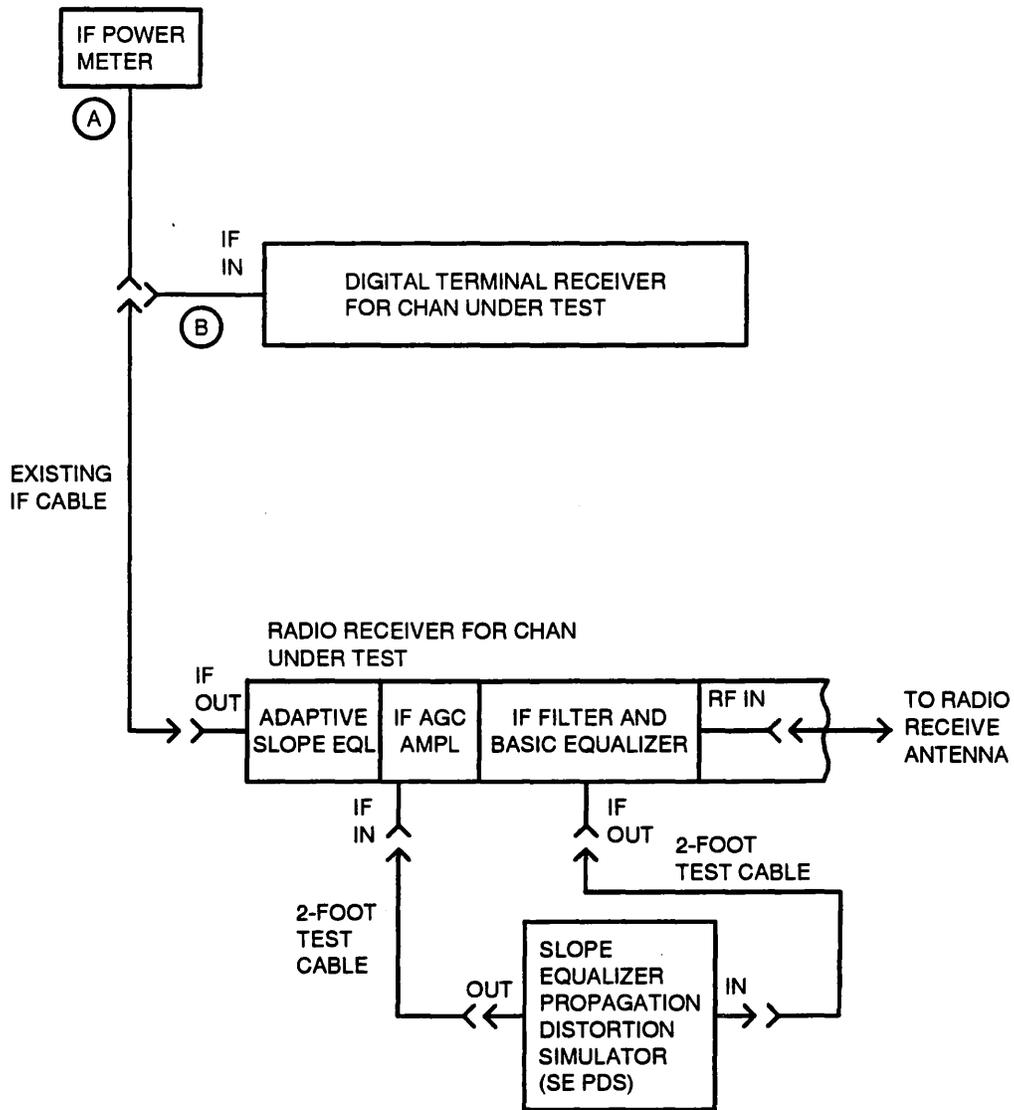
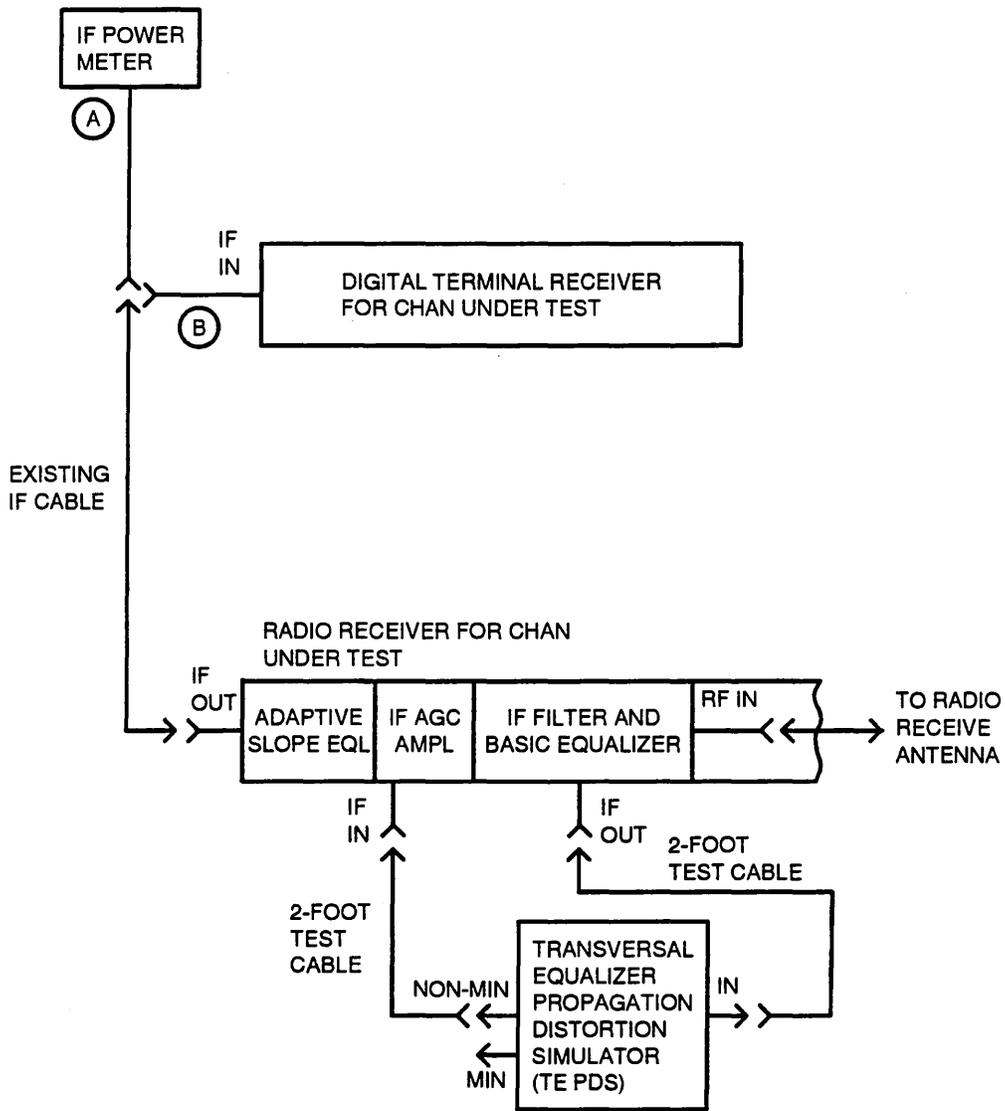

Figure 1 - Slope Equalizer Performance Check Test Setup
Figure 2- Transversal Equalizer Performance Check Test Setup
The test configurations used for the over-the-air propagation distortion ASE and TE performance tests are shown in Figures 1 and 2, respectively. The interrupt tests are performed with the setup shown in Figure 2 less the TE PDS for the non-robust with/without TE and robust without TE cases.
- Refer to Figure 1.
3. Establish setup for ASE performance test (Figure 1).
5. Using the power meter, measure the power of the IF input cable as shown in Figure 1, Option A.
8. Disconnect the power meter and reconnect the IF cable to the RCV IF IN jack of the digital receiver under test (Figure 1, Option B).
16. Establish setup for the TE performance test (Figure 2).
18. On the regenerator shelf patch panel, remove the IF input cable from the associated RCV IF IN jack and measure the power as shown in Figure 2, Option A.
19. Disconnect the power meter and reconnect the test cable to the RCV IF IN jack of the digital receiver under test (Figure 2, Option B).